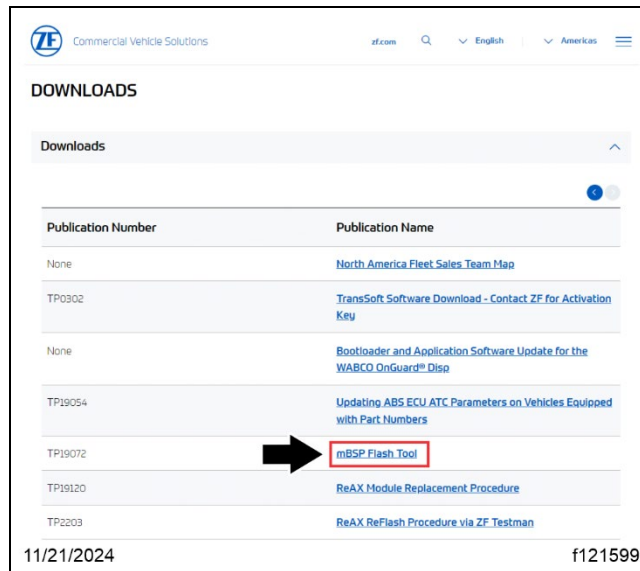

Fig. 23, mBSP Flash Tool Download Link
5.2. Scroll down to the 'Downloads' section towards the bottom, and select 'mBSP Flash Tool.' See **Fig. 23**.